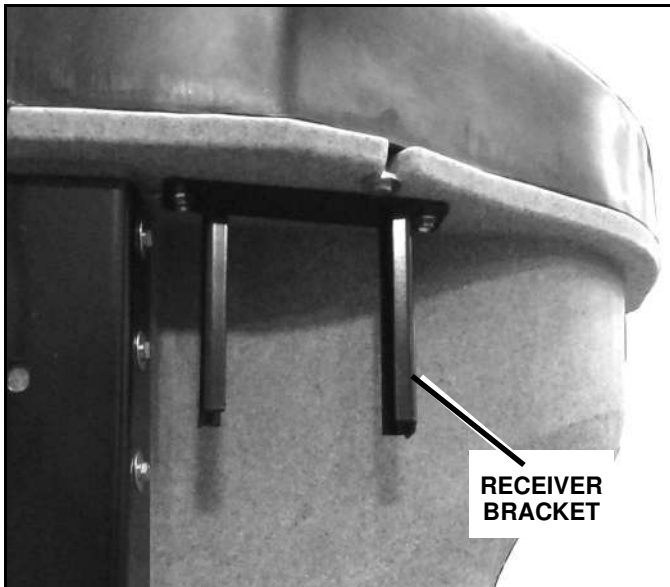

Figure 1-5
1. Remove the receiver bracket from the package and place it under the top lip of the spreader hopper on the driver's side (See Figure 1-5).